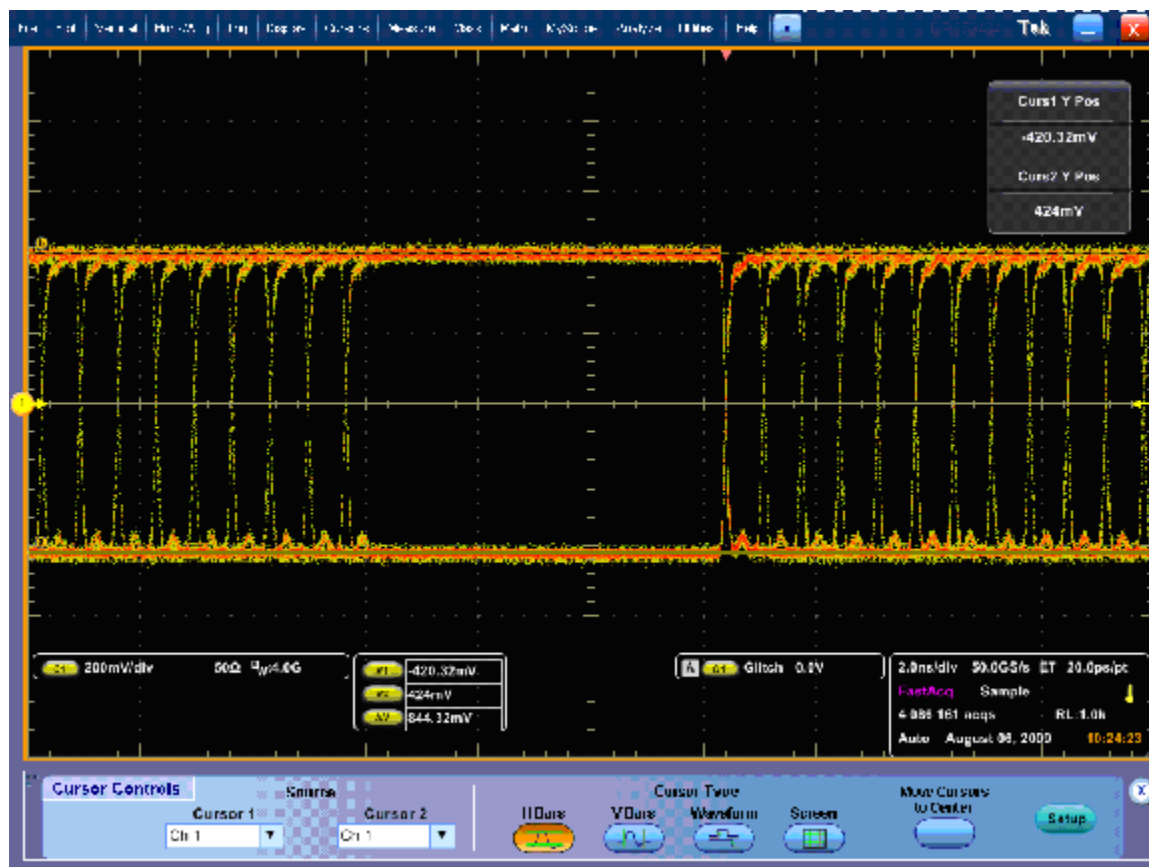

Figure 2: Serial output at 1.5 Gb/s, using Glitch Trigger mode
7. Check the serial signal amplitude, using the 7 ns wide region without transitions. The amplitude should be very similar to that noted in step 5. Outside of the 7 ns region, check that the eye is open between transitions. (See Figure 2.)